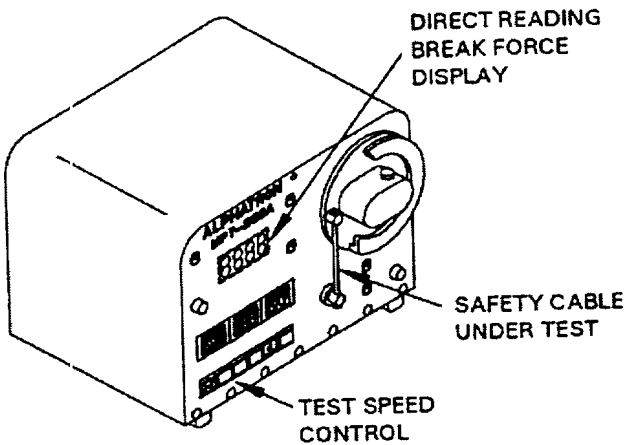

Figure 35. Electronic Safety Cable Pull Tester
(Figure 35) should have digital readout capability, and a two (2) inch/minute pull rate.